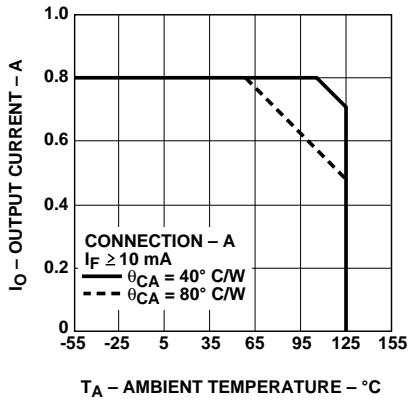
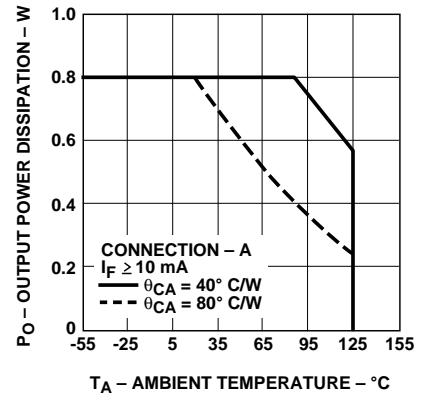

Figure 2. Maximum Average Output Current Rating vs. Ambient Temperature.
Figure 4. Output Power Rating vs. Ambient Temperature.
Average Output Current – Figure 2
Average Output Power Dissipation – Figure 4	800 mW ^[2]
- For rating, see Figure 4. The output power P_O rating curve is obtained when the part is handling the maximum average output current I_O as shown in Figure 2.
IN ORDER TO DETERMINE V_{OUT} CORRECTLY, THE CASE TO AMBIENT THERMAL IMPEDANCE MUST BE MEASURED FOR THE BURN-IN BOARDS TO BE USED. THEN, KNOWING θ_{CA} , DETERMINE THE CORRECT OUTPUT CURRENT PER FIGURES 2 AND 4 TO INSURE THAT THE DEVICE MEETS THE DERATING REQUIREMENTS AS SHOWN.
Rating curves are shown in Figures 2 and 4. Figure 2 specifies the maximum average output current allowable for a given ambient temperature. Figure 4 specifies the output power dissipation allowable for a given ambient temperature. Above 55°C (for $\theta_{CA} = 80^{\circ}\text{C}/\text{W}$) and 107°C (for $\theta_{CA} = 40^{\circ}\text{C}/\text{W}$), the maximum allowable output current and power dissipation are related by the expression $R_{SS} = P_O(\text{max}) / (I_O(\text{max}))^2$ from which R_{SS} can be calculated. Staying within the safe area assures that the steady-state junction temperatures remain less than 150°C . As an example, for $T_A = 95^{\circ}\text{C}$ and $\theta_{CA} = 80^{\circ}\text{C}/\text{W}$, Figure 2 shows that the output current should be limited to less than
610 mA. A check with Figure 4 shows that the output power dissipation at $T_A = 95^\circ\text{C}$ and $I_O = 610$ mA, will be limited to less than 0.35 W. This yields an R_{SS} of 0.94 Ω .